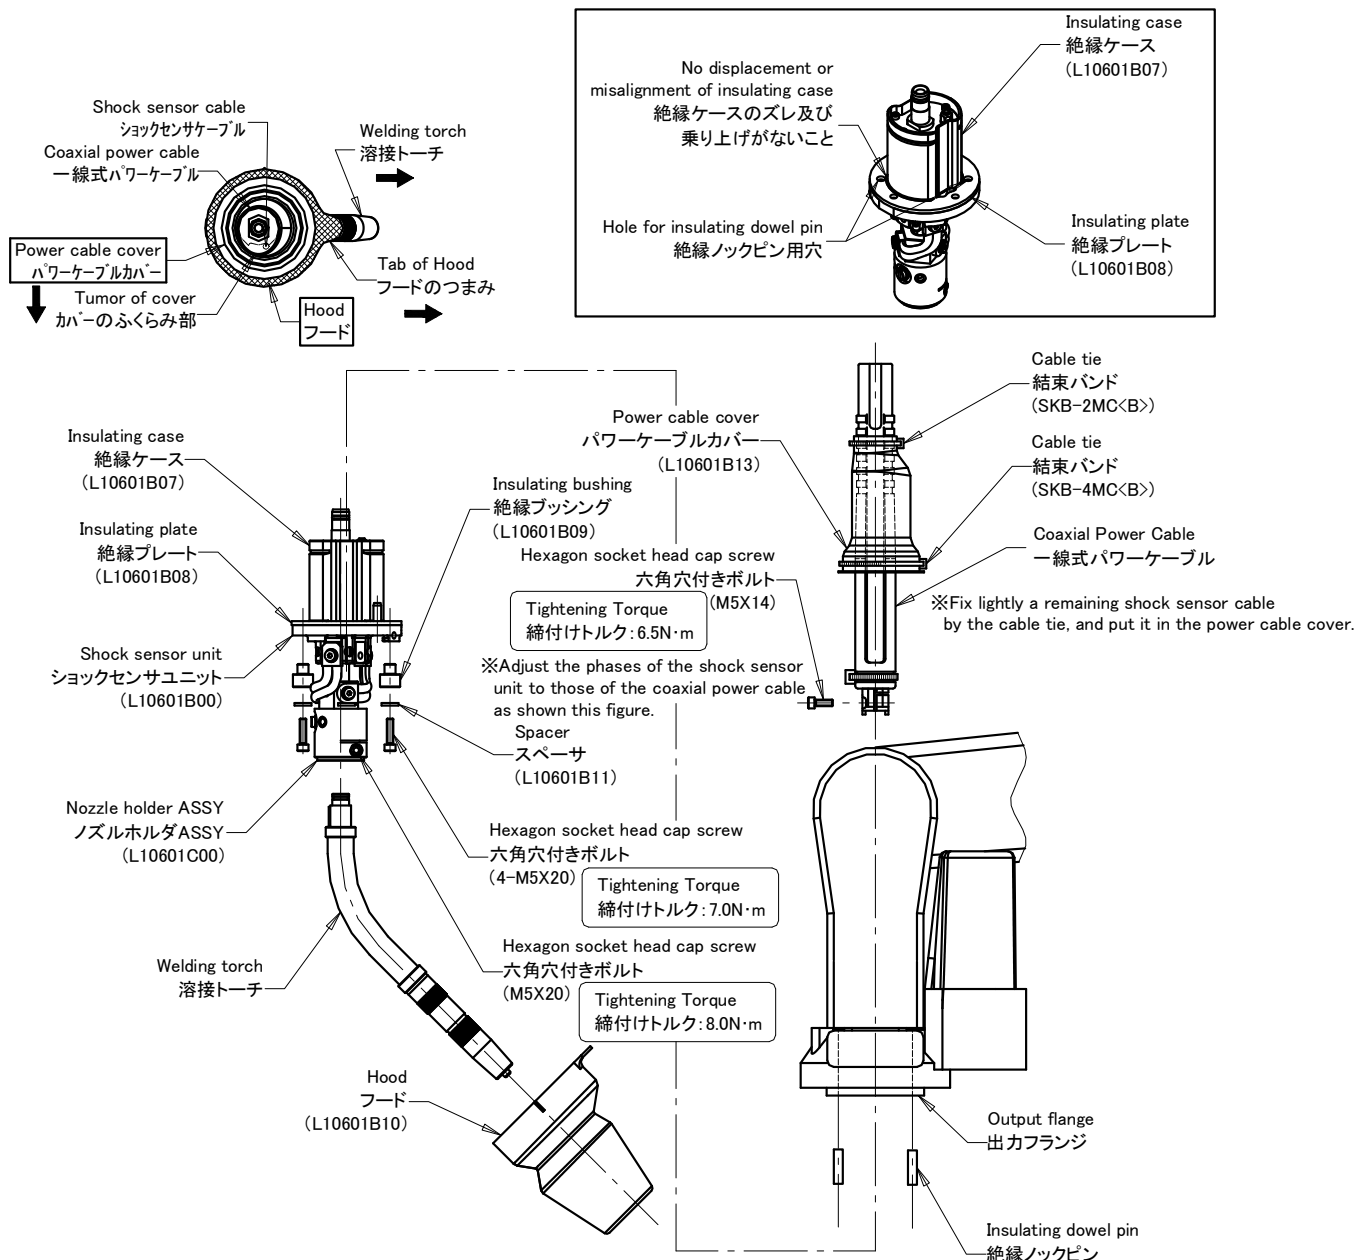

Fig. 3.8 Mounting of torch and shock sensor
- (1) Drive the two insulating dowel pins into the output flange of manipulator from underneath. (The pins are attached to the shock sensor unit (L10601B00).)
- (2) Make sure that the insulating case (L10601B07) and the insulating plate (L10601B08) are fixed properly.
- (3) Insert the shock sensor unit into the output flange of manipulator from underneath. Position correctly the holes for insulating dowel pin of shock sensor to the insulating dowel pins.
- (4) Mount the insulating bushing (L10601B09) and the spacer (L10601B11) onto the shock sensor unit from underneath, using 4 pieces of hexagon socket head cap screws (M5×20). (The screws are attached to the shock sensor unit.)
- (5) Unfasten the hexagon socket head bolt (M5×20) that fixes the shock sensor, and then insert and fix the welding torch.
- (6) Attach the power cable cover (L10601B13) from above, and the hood (L10601B10) from underneath. (Refer to the top view in fig.3.8 for the installation direction.)
Note) Adjust the phase of the shock sensor to those of the coaxial power cable as shown Fig. 3.8.